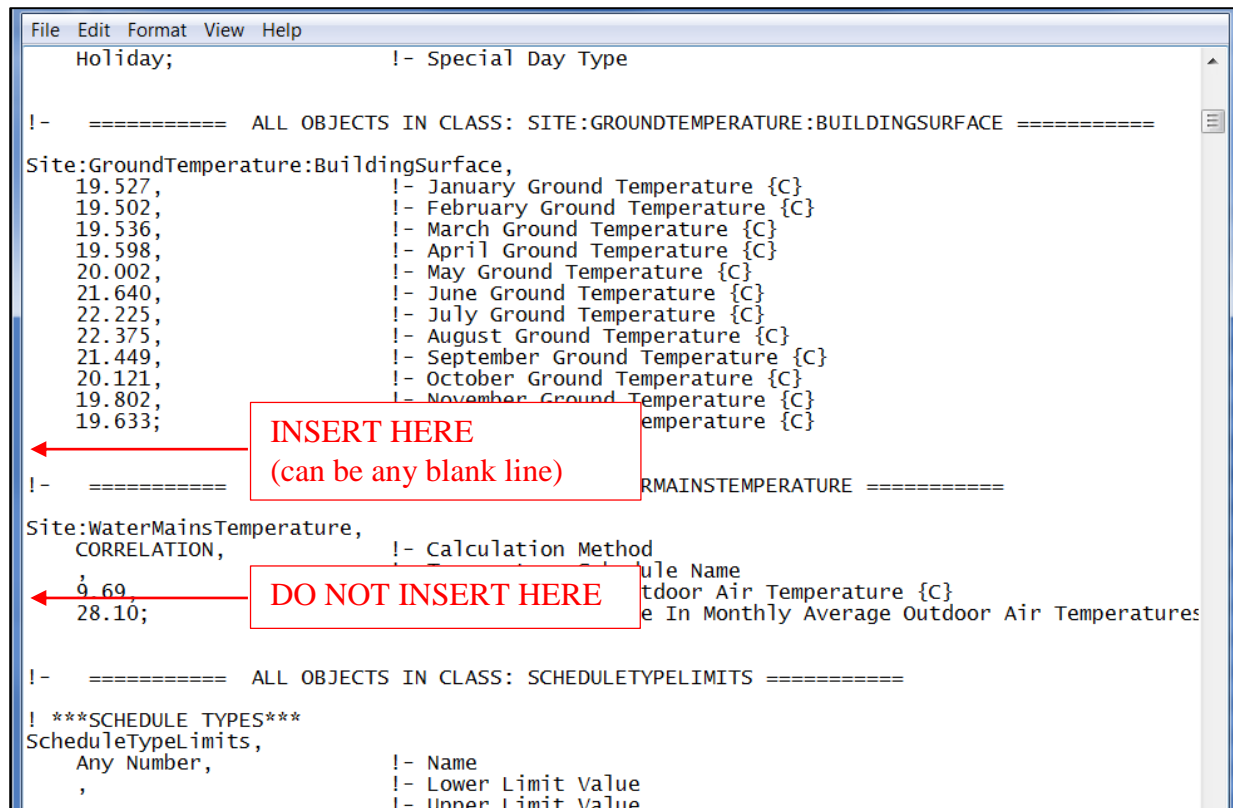

Figure 25. Where to insert the contents of the partial .idf file in EnergyPlus project file
- b. Copy and paste the entire contents of the partial .idf created by this feature into the EnergyPlus simulation file. It does not matter where, however do not break-up any existing EnergyPlus objects by pasting the text from the partial .idf file below an input that ends in a semicolon (**Figure 25**). If you would like similar objects to be grouped together, you can open up the updated EnergyPlus simulation file in the EnergyPlus IDF Editor program. When you use the “Save as” function, the objects in the EnergyPlus simulation file will re-order the objects and group similar objects together.